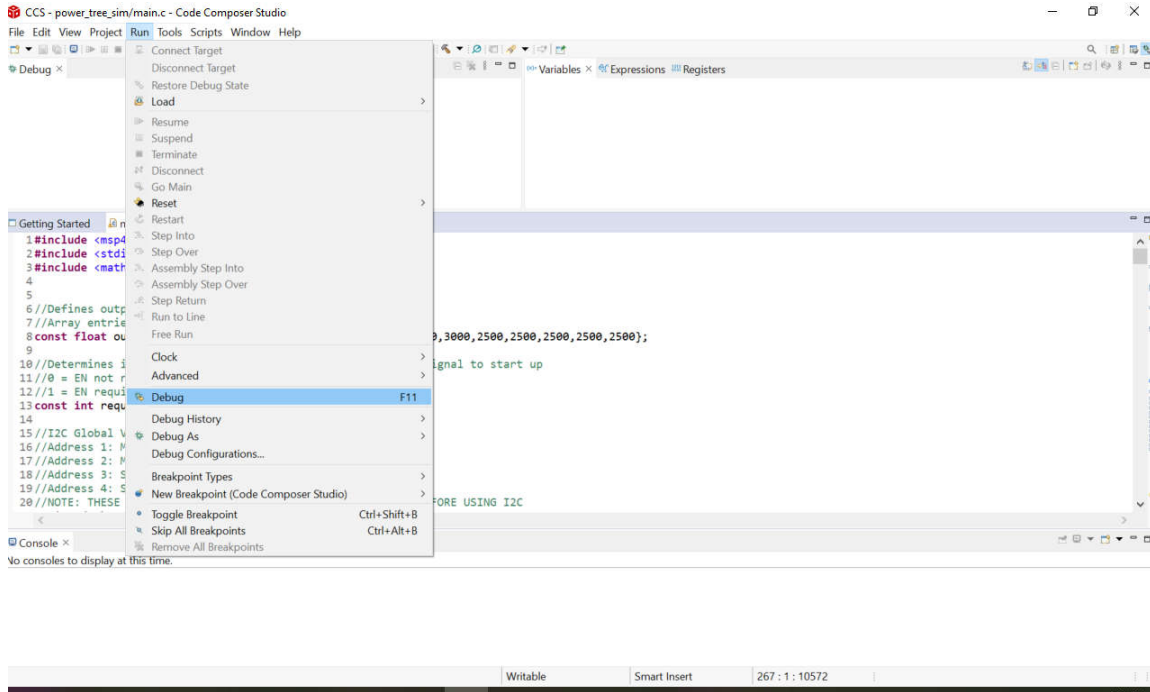

Figure 4-4. Run Code in CCS
5. Run the code by selecting *Run> Start Debugging* in the CCS workspace. See Figure 4-4 for more information.